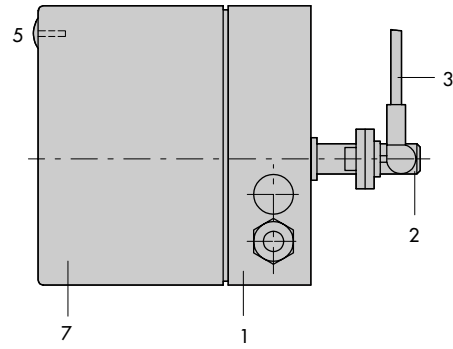

Fig. 3 · Type 5801-4
Fig. 3 shows Type 5801 Rotary Actuator (1). It consists of a synchronous motor of the permanent-magnet type and a maintenance-free gearing connected to the output shaft (2) and the lever linkage (3) via a coupling.